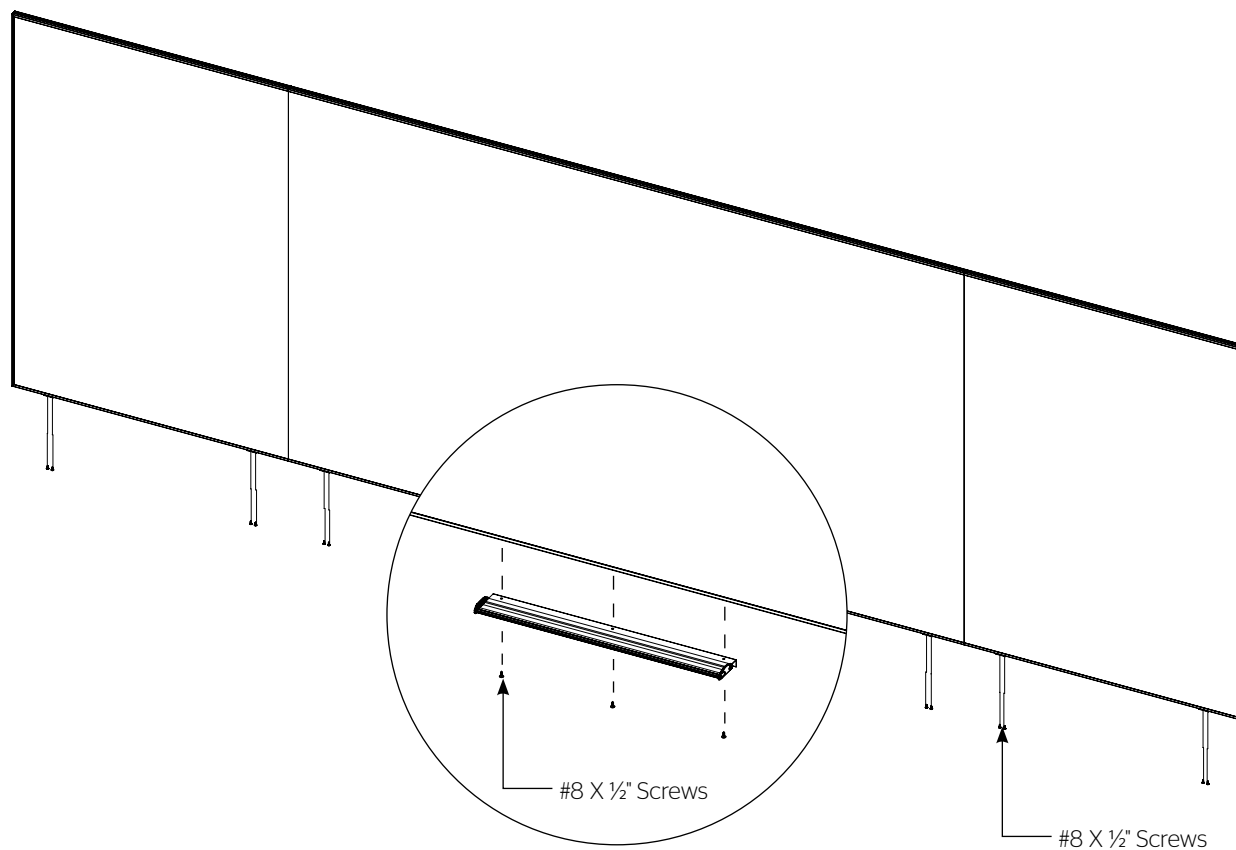

Figure 4
- Center the aluminum tray to the bottom of the center panel frame and attach with (3) of the provided #8 x 1/2" screws. Insert screws through the tray into the groove (Figure 4).
- Tap the bottom of the six L-brackets with the rubber mallet until they make contact with the frame. Secure the six L-brackets to the frame with the remaining (12) #8 x 1/2" screws (Figure 4).